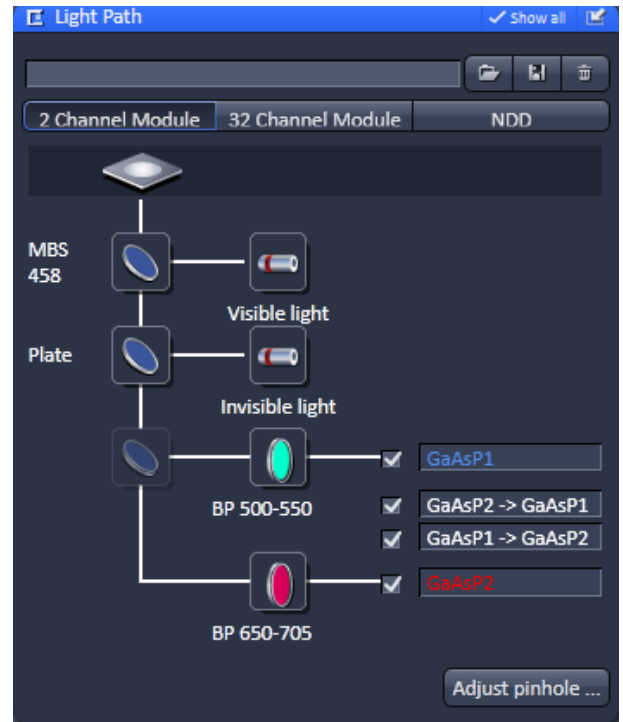

Fig. 236 System Configuration tab - Light Path tool opened for the BiG on channel output of LSM 710
- Click on the MBS icon to open a list of dichroics (Fig. 236).